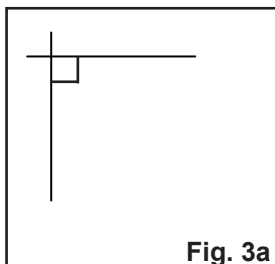
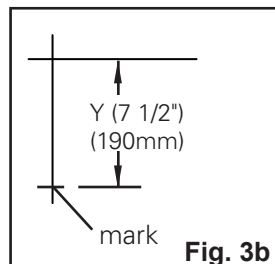
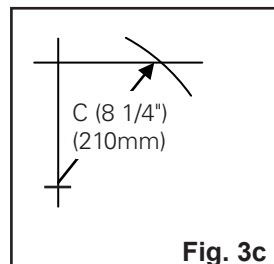
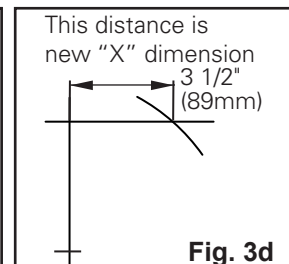

Fig. 3a
Fig. 3b
Fig. 3c
Fig. 3d
- Determine final dimension.** On a flat vertical surface, using a level, draw one horizontal line and one vertical line, creating a right triangle (Fig 3a). Measure down from the intersection the determined “Y” dimension and mark (Fig 3b). With the tape measure starting at the modified “Y” mark, swing the tape across the “X” line and mark at the “C” dimension where it crosses the “X” line (Fig 3c). Measure from the intersection to the “C” intersection and this will be your new “X” dimension (Fig 3d).